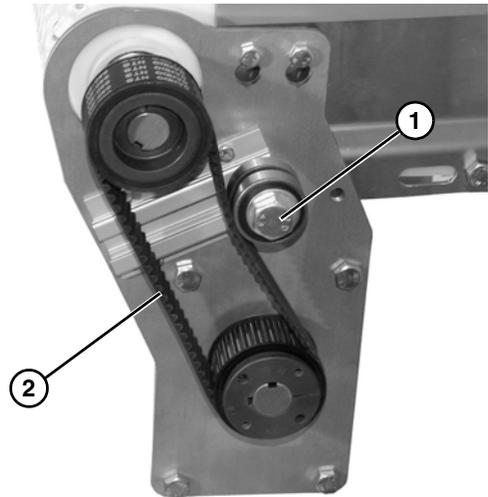

Figure 14
2. Loosen tensioner (**Figure 14, item 1**).
3. Tension timing belt to obtain 1/8" (3 mm) deflection for 6 lb (3 Kg) of force at timing belt mid-point (**Figure 14, item 2**). Tighten tensioner screw (**Figure 14, item 1**) to 110 in-lb (12 Nm).